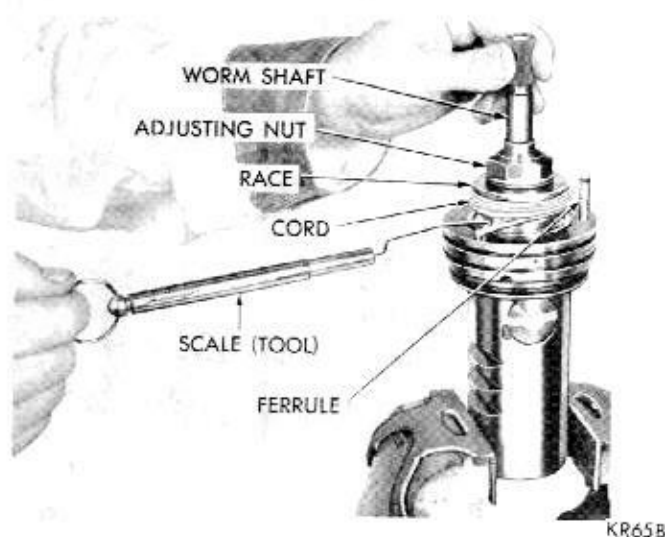

Fig. 20—Checking Center Bearing Preload
(34) Turn wormshaft clockwise one-half turn. Hold wormshaft in this position with splined nut, Tool C-3637 and socket wrench, and hold in this position through items 35 and 36, then tighten nut to 50 foot-pounds to prestretch wormshaft threads.
(35) Loosen adjusting nut. Place several rounds of cord around center bearing race (Fig. 20). Make a loop in one end of cord and hook loop of a distributor breaker arm spring scale Tool MTU-36 in cord loop. Pulling cord will cause bearing race to rotate. Retighten worm bearing adjusting nut while pulling on cord with scale. When adjusting nut is tightened properly, reading on the scale should be 16 to 24 ounces (20 ounces preferred while the race is turning).
(36) Stake upper part of wormshaft adjusting nut into knurled area of shaft.